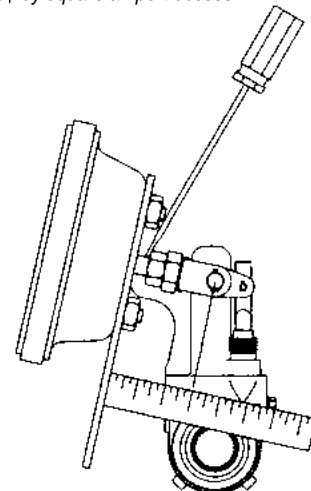

Figure 4 - Free Stroke
4. Free stroke is the amount of movement of the slack adjuster required to move the brake shoes against the drum. With brakes released, measure from the face of the chamber to the center of the clevis pin. Use a ruler to measure the movement of the slack adjuster until the brake shoes contact the drum (fig. 4). The difference between the released and applied measurements is the free stroke. The free stroke should be 3/8" to 5/8". If the free stroke is good, but the applied stroke is too long, there is a problem with the foundation brake. Check the foundation brake for missing or worn components, cracked brake drums, or improper lining to drum contact. If the free stroke is greater than the recommended distance (3/8" to 5/8"), a function test of the slack adjuster should be performed (see page 6-11). If the free stroke is less than 3/8", a dragging brake can occur. Check to see that the manual adjustment procedure was followed correctly. Manually readjust the brake following the procedure on this page.